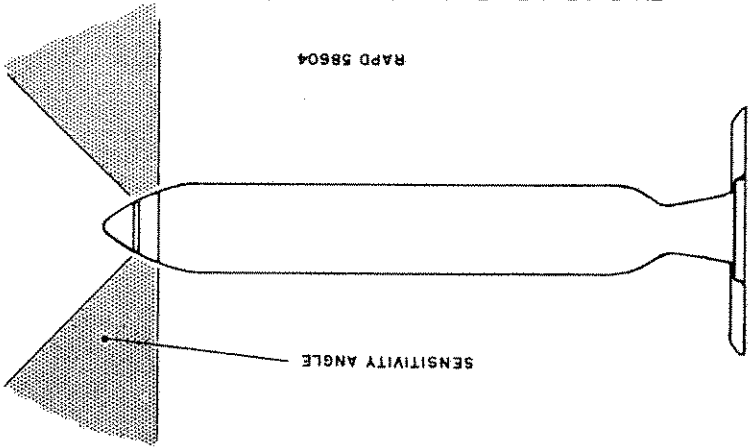

FIG. 3. SENSITIVITY ANGLE OF FUZE 14
(1) The fuze 14 is a photoelectric fuze which functions when influenced by a change in intensity of light. Only light rays or shadows which strike the fuze within the sensitivity angle (shaded areas of Fig. 3) can cause the functioning. Prior to arming (which is approximately 1 second time of flight) the fuze is "blind" to changes in light intensity. After it is armed, the fuze functions when it passes into a shadow (below an airplane) or into a reflection from a
(2) The fuze 14 does not function if intensity of light within its sensitivity angle (Fig. 3) remains constant. Only changes in light intensity function the fuze after it is armed. This fuze cannot be used before sunrise or after sunset, nor should it be used in fogs or clouds. At altitudes below 10,000 feet the rocket should be aimed slightly (10 feet) below the target.
(3) The fuze will function after arming if fired with the sun shining into its sensitivity angle (Fig. 3).